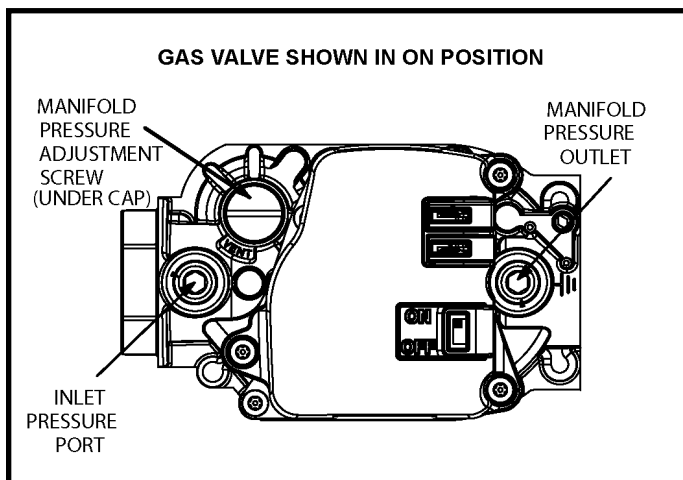

Figure 67
### Gas Valve Operation (Figure 67)
6. Move gas valve switch to **OFF**. See Figure 67.
8. Move gas valve switch to **ON**. See Figure 67.
When testing supply gas pressure, use the 1/8" N.P.T. plugged tap or pressure post located on the gas valve to facilitate test gauge connection. See Figure 67. Check gas line pressure with unit firing at maximum rate. Low pressure may result in erratic operation or underfire. High pressure can result in permanent damage to gas valve or overfire.